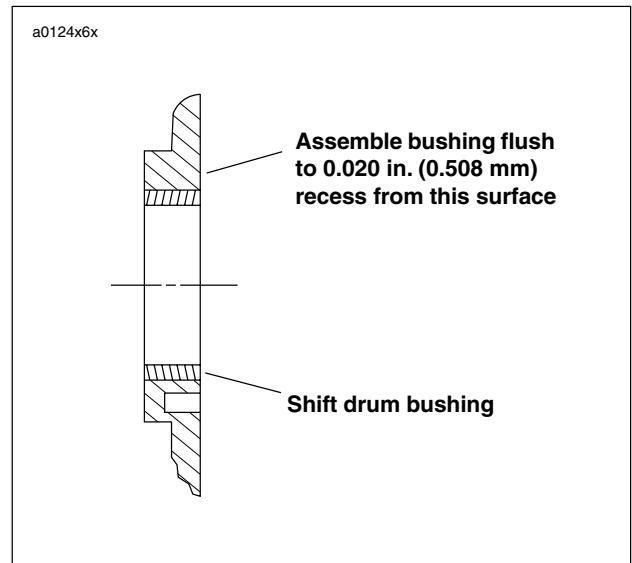

Figure 6-54. Shift Drum Bushing Assembly
2. See Figure 6-54. Lay bushing squarely over bore. Locate socket or pipe that is slightly larger than diameter of bushing. Place socket or pipe on bushing and press into bore until bushing is flush with or 0.020 in. (0.508 mm) below inside surface. If using a pressing tool larger than diameter of bushing, the pressing tool will bottom against crankcase when bushing is flush with top surface.